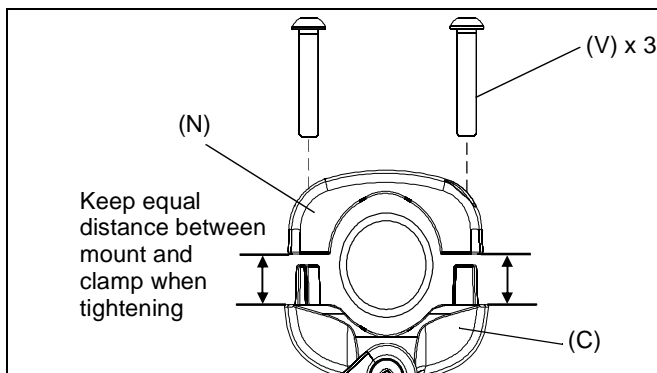

Figure 5
3. Equally tighten screws (V) against front pole mount and the rear pole clamp (N). (See Figure 5)